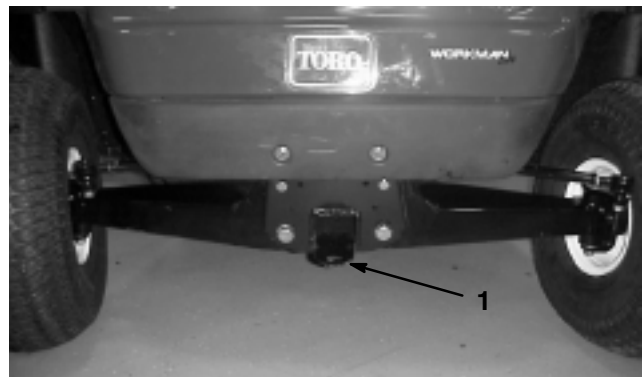

Figure 13
2. Affix a tow line to tongue on front frame member (Fig. 13).